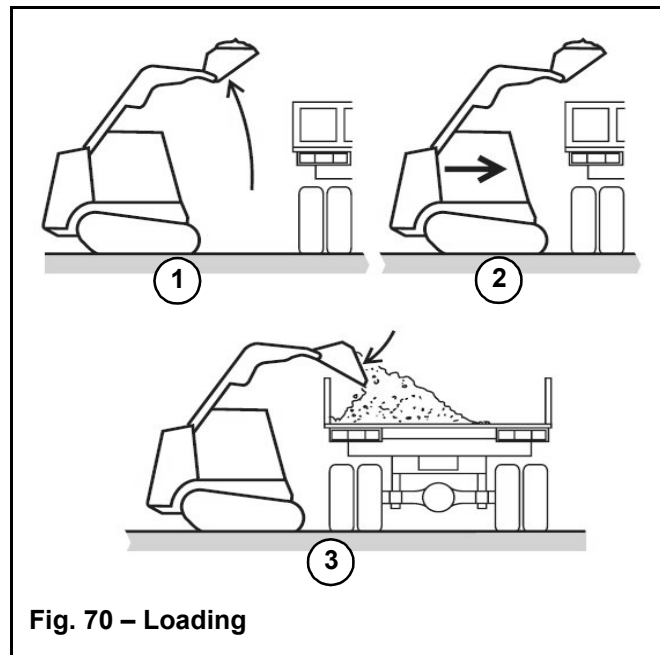

Fig. 70 – Loading
1. Approach the truck and stop, then raise the bucket until the lower edge of the bucket clears the truck bed (Fig. 70).